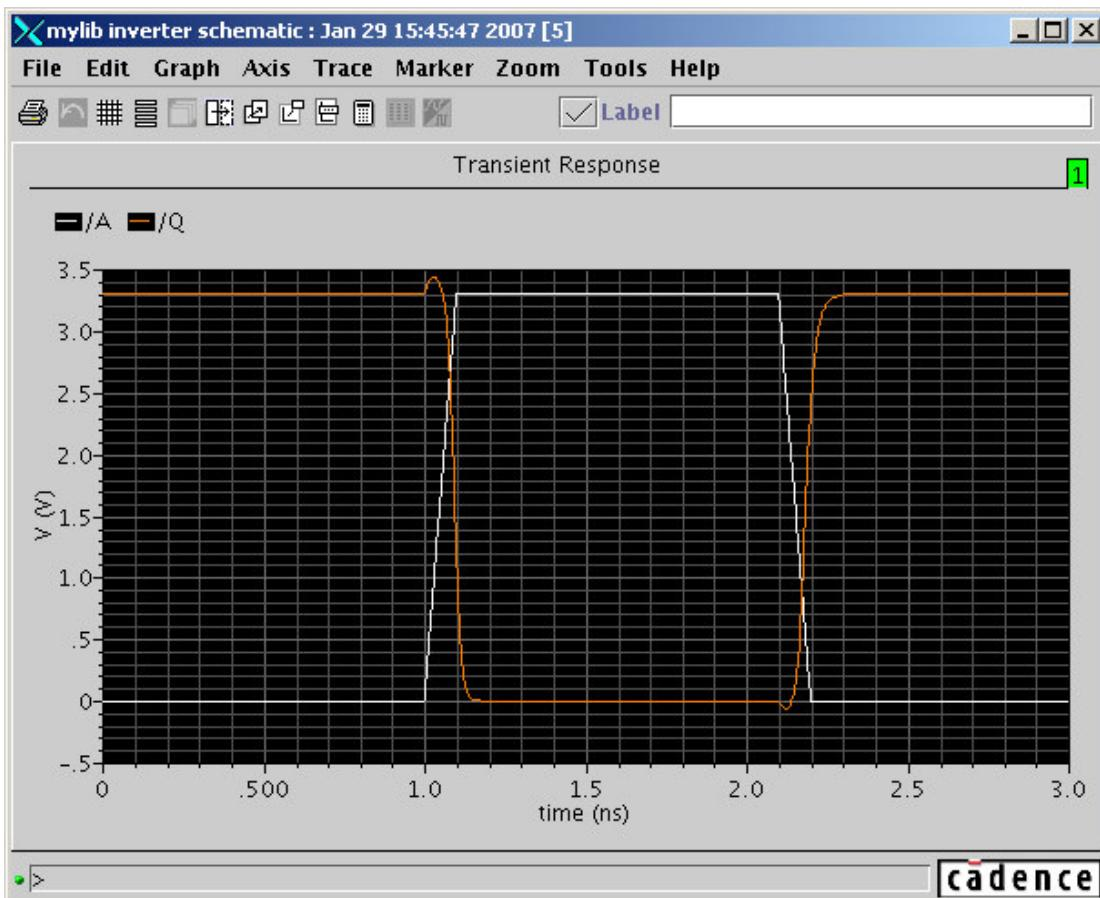

Figure 17. Inverter Functional Simulation Results
6. Verify you get a simulation results graph as shown in Figure 17. If your output matches the simulation results in Figure 17 then you may proceed with the lab.